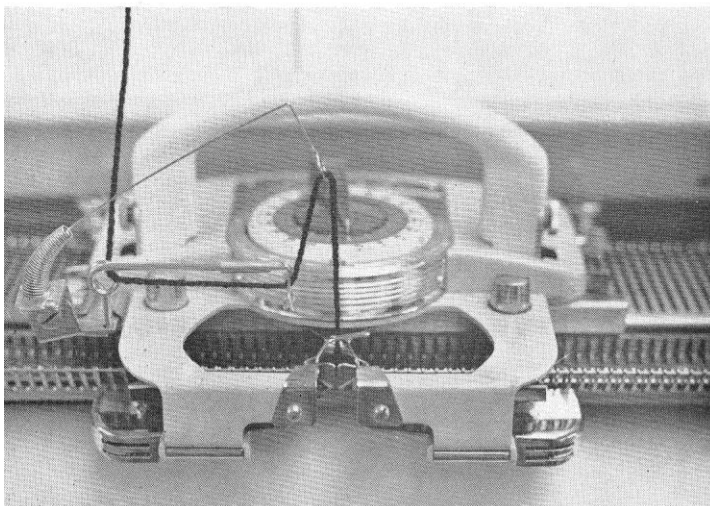

Fig. 4
2. Fit Tension Control Assembly into Slide (Fig. 4) left of Cam Box.